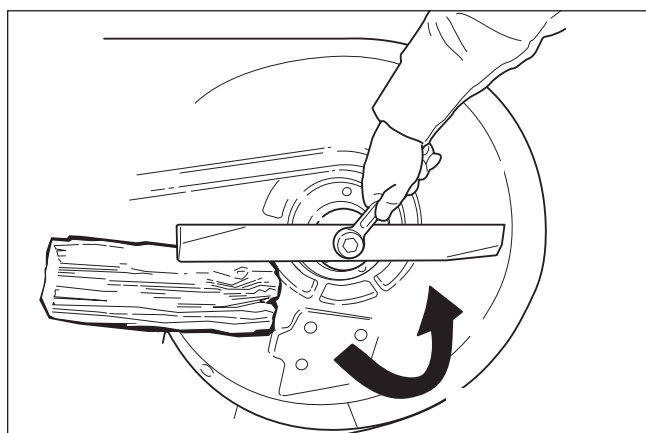

Figure 14. Loosening the Mower Blade for Removal
1. To remove the mower blade, use a 1" wrench on the flats of the spindle shaft and remove the mower blade mounting bolt with a 15/16" wrench (Figure 14).